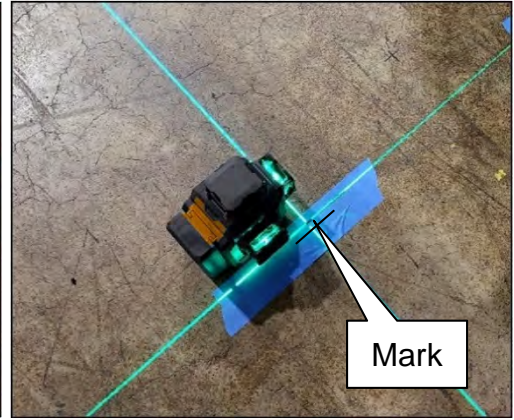

Figure 36
27. Place a mark on the floor below the laser line (Figure 36).